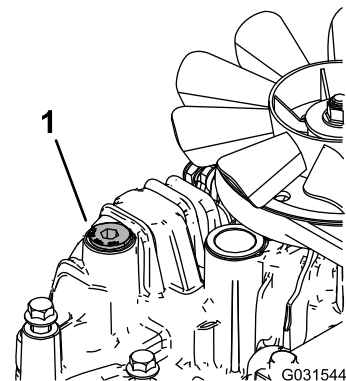

Figure 83
11. Loosen the vent plug in each transmission so that it is loose and wobbles (Figure 83).